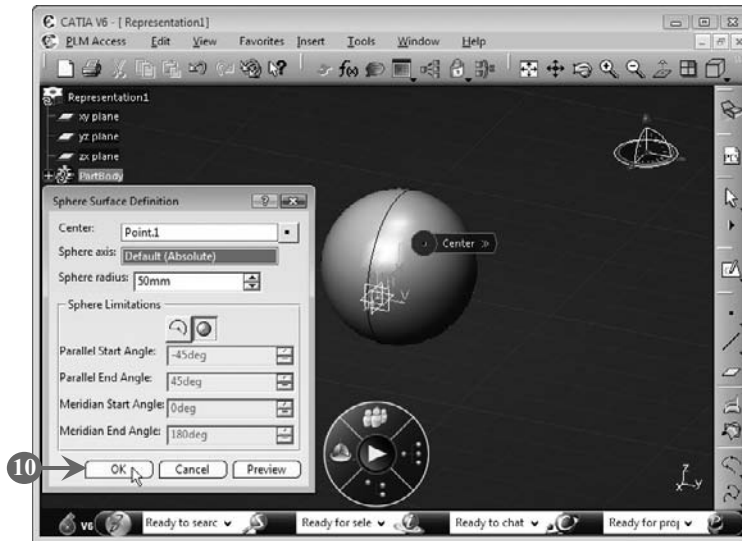

FIGURE 5.44
10. Click the **OK** button to close the **Sphere Surface Definition** dialog box, as shown in Figure 5.44: